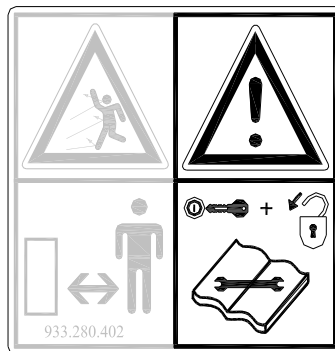
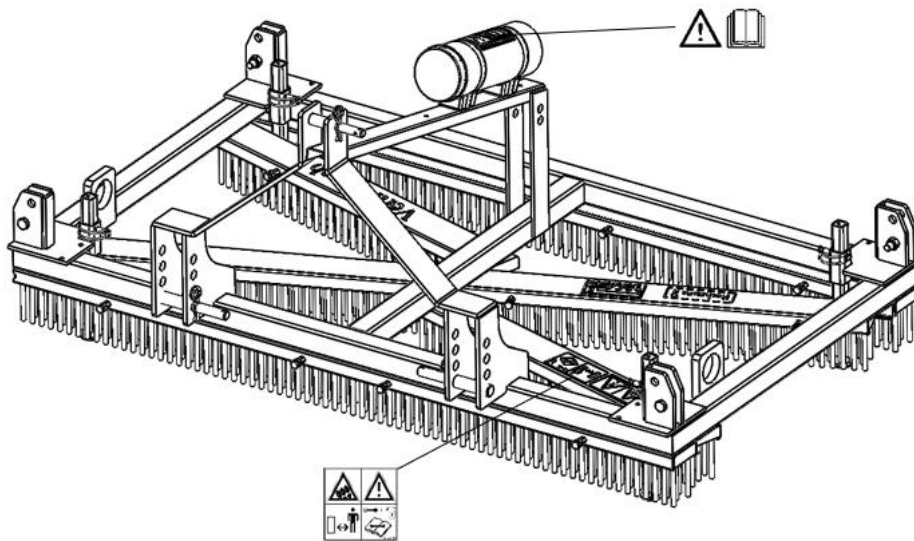

Figure 2
Figure 5
**Always switch off the tractor motor and take the tractor's key out of the ignition** in carrying out maintenance, adjustments and repairs (Figure 2).
Safety stickers (Figure 2, 3 and 4) with an identical meaning are attached to both sides (Figure 5) of the Verti-Comb. These safety stickers must always be clearly visible and legible and must be replaced if they have become damaged.
7. Location of the safety stickers (Figure 5).